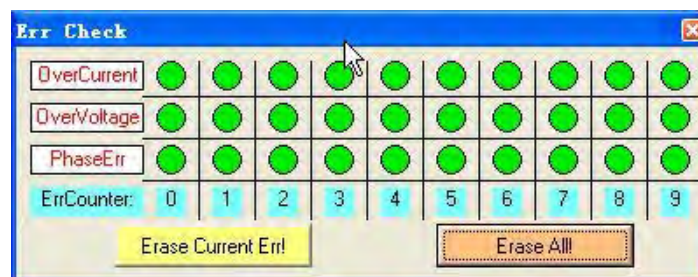

Figure 28: Error check window
- **Error Check:** This window shows both the present status of each error event and their history. Current error event(s) can be reset by clicking **Erase Current Err!** button, and all error events can be reset by clicking **Erase All!** button. List of the last ten Drive faults. #0 being the most recent, #9 is the oldest. See Figure 28.